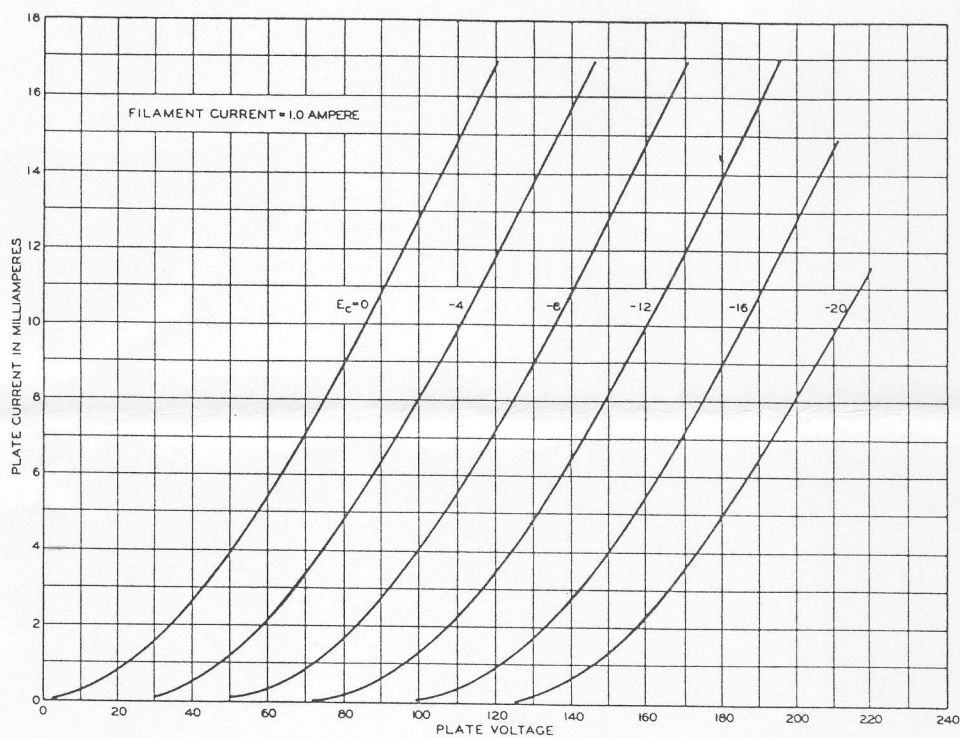
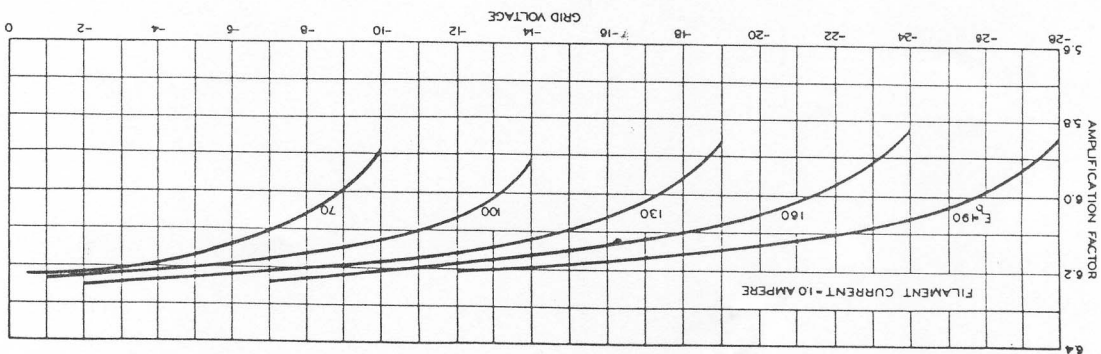

FIG. 7
FIG. 4
**Characteristics**—Figure 3 shows typical curves of plate current as a function of grid voltage for several values of plate voltage. The grid and plate voltages are measured from the negative end of the filament. Figures 4, 5 and 6 show corresponding amplification factor, plate resistance and transconductance characteristics respectively. Figure 7 shows plate current as a function of plate voltage for several values of grid voltage.